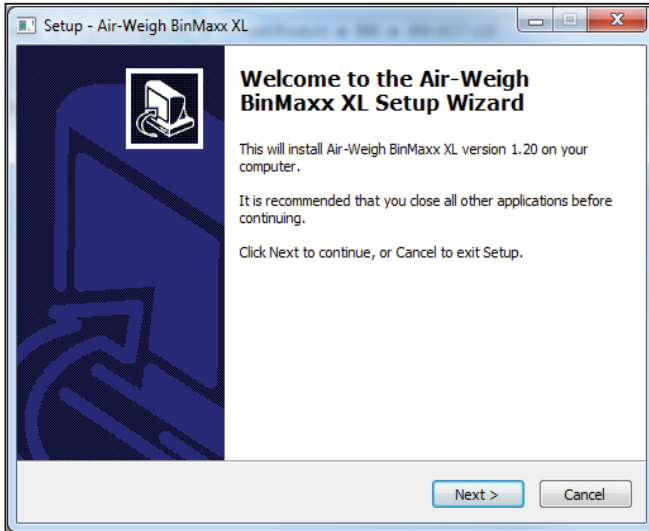

Fig. 2 BinMaxx XL Installation Wizard
3. The installation wizard should open (Fig. 2). Click Next to install the program. The wizard will ask you choose a folder for the program; for most installations, click Next to choose the default folder. The default folder containing the program itself will be created in Program Files, while the truck list and spreadsheets will be saved in My Documents by default. The program will finish installing.